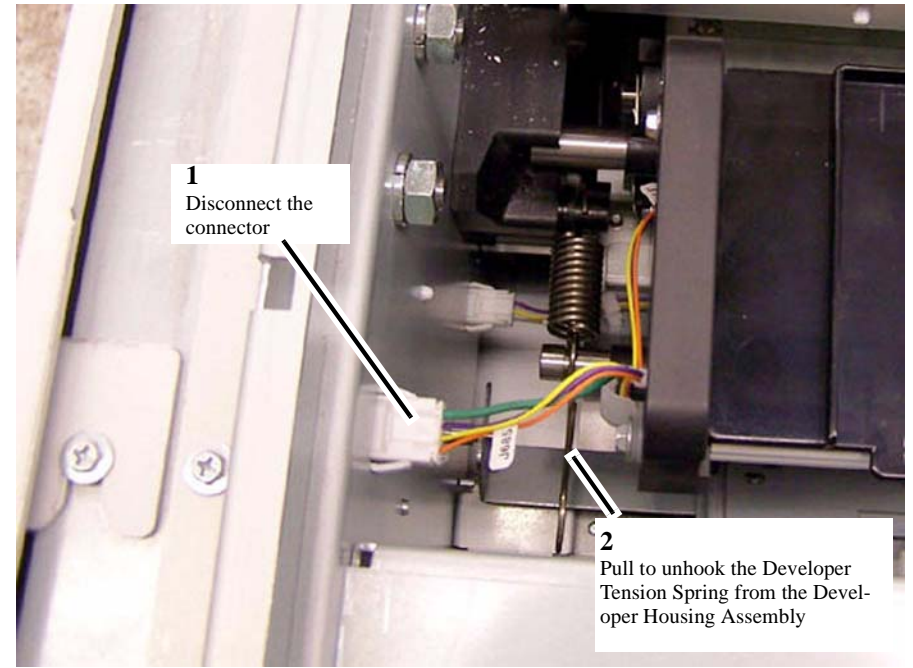

Figure 5 Left end of Developer Housing Assembly
4. Remove the Developer Housing Assembly (Figure 5).